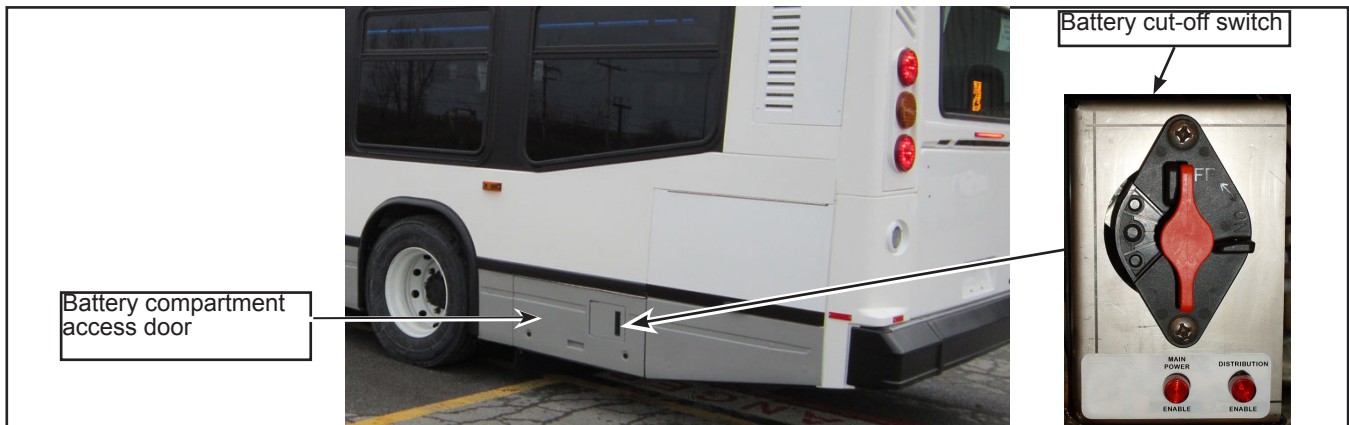

Figure 2 - Deactivate the Vehicle's Power Supply
1.2. Open the battery compartment access door, ensure that the vehicle's power supply has been deactivated by turning off the battery cut-off switch (see Figure 2).